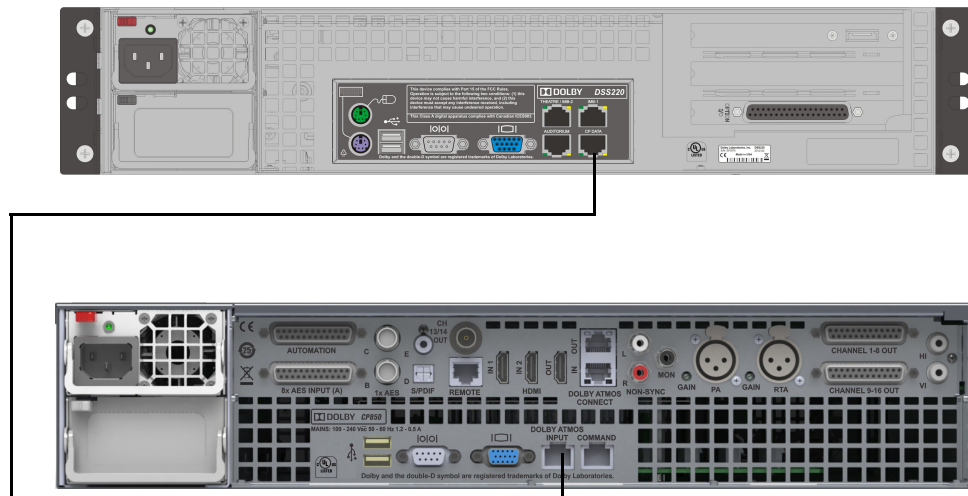

Figure 2-5 Connecting a DSS220 to the CP850
1. Use a CAT5E (or greater) Ethernet cable to connect the **CP DATA** port on the DSS220 to the **DOLBY ATMOS INPUT** port on the CP850, as shown in Figure 2-5.